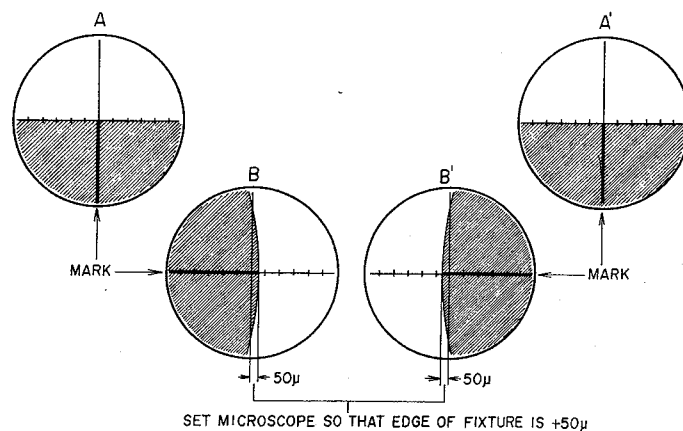

Fig. 1-11 Microscopic Views of Fixture
(1) Calibration of the Microscopes
- a) As shown in fig. 10, to adjust the position of the microscopes, with the prop positioned in the center of the microscopes, align the center line of the microscopes (microscopes attached to fixture plate) (A and A') with the mark on the fixture. (ref. fig. 1-11)